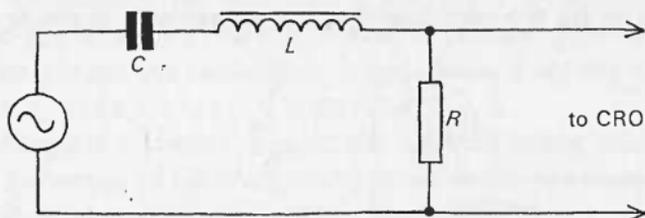

Figure 55
**34** What is the current in the circuit in figure 55, when the deflection of the CRO spot indicates a voltage  $V$  across  $R$ ?